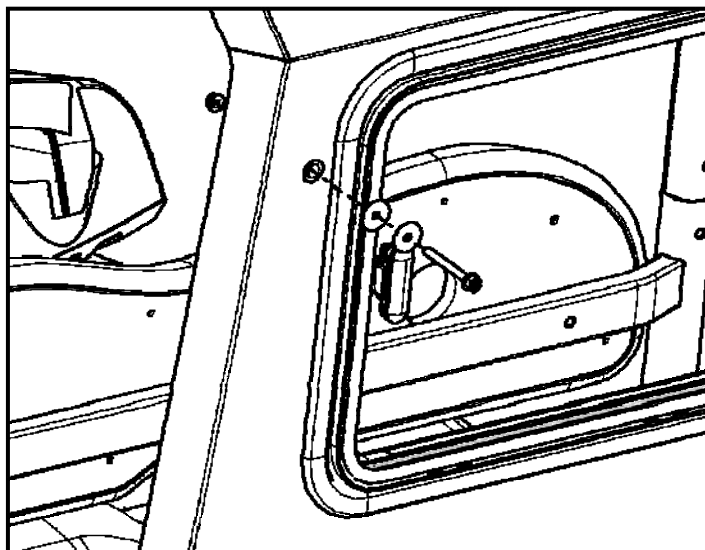

Figure 2.2: Rear panel
- (2) 5/16-18 Flanged nut
With assistance, slide the rear panel behind the Carryall ROPS, in front of the dump bed. Place the rear panel against the back of the ROPS and per **figure 2.2** secure it with two (2) 5/16 x 3" bolts, with steel and rubber fender washers, through the rear panel and the holes in the ROPS, with a nut on the inside. Leave bolts loose.